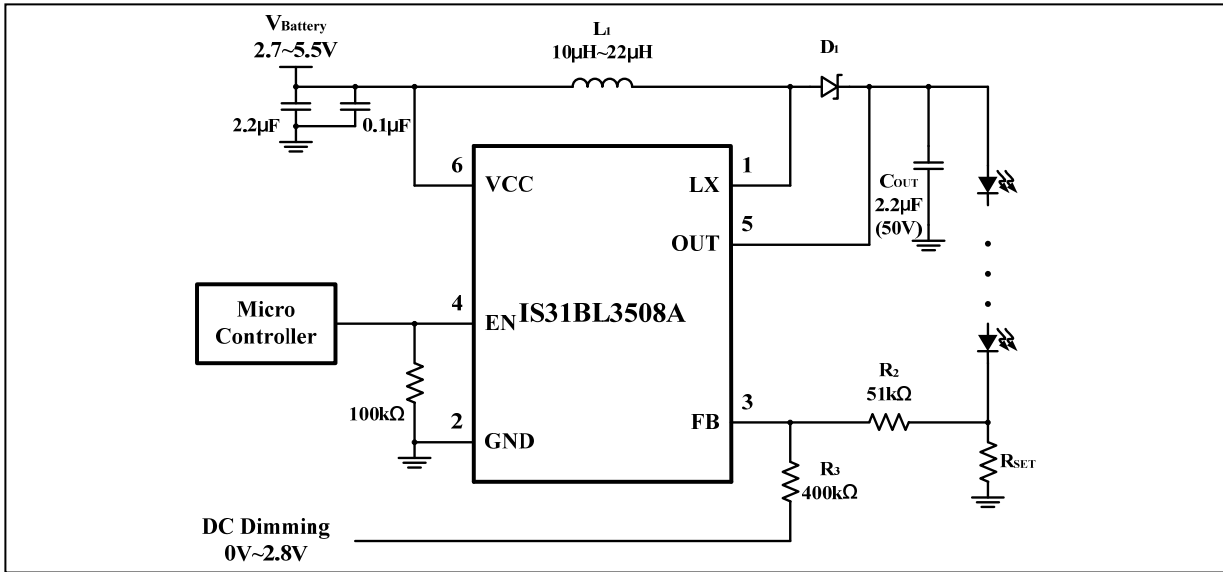

Figure 5 Constant Output Current With DC Dimming Input
The schematic of Figure 5 shows an example of using a DC input voltage at the FB pin to implement LED dimming. When the DC input voltage increases, the current through R₂ and R₃ increases producing an offset voltage across R₂, thereby causing the LED current to be reduced. The LED current may be computed using the following Equation (3). V_{FB} is 0.3V (Typ.).